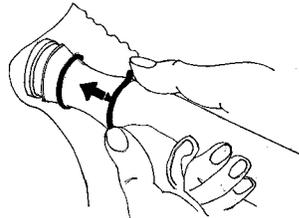

Figure 10.
7	Carefully remove the two (2) O-Rings from their grooves and slide them to the narrow area of the Plunger . See Figure 10. TIP: Use a paper towel to squeeze the O-Ring on opposite sides. This makes it easier for you to grab the O-Ring.